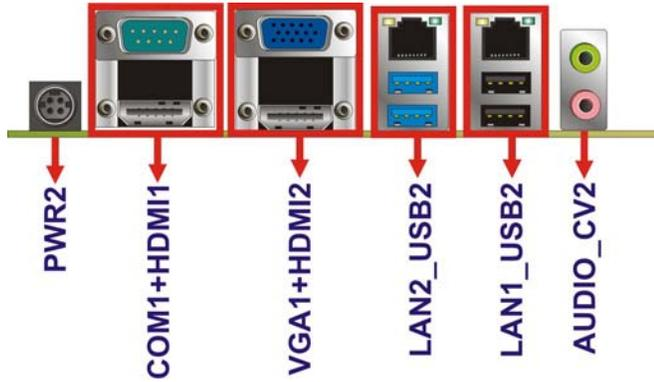

Figure 3-29: External Peripheral Interface Connector
Figure 3-29 shows the KINO-KBN-i2 external peripheral interface connector (EPIC) panel. The EPIC panel consists of the following:
CN Location: See Figure 3-29
- CN Location:** See **Figure 3-29**
CN Location:	See Figure 3-29